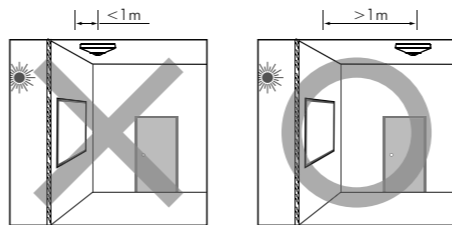

FIG.4-E
- Do not install the detector directly next to a window or sun blind which can cause incorrect measurement on the natural light (Refer to FIG.4-E)